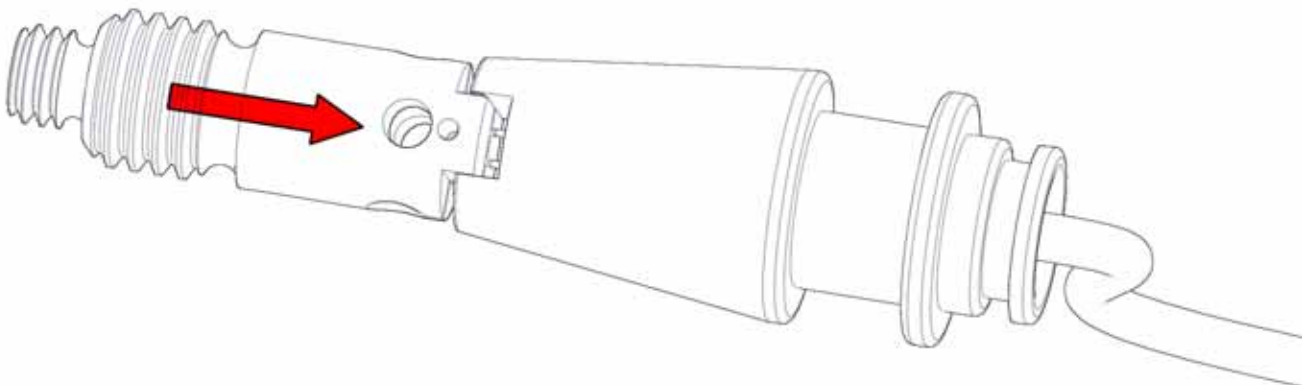

Figure 2-13 Sliding the threaded PEEK stud into the release housing.
2. Slide the threaded PEEK stud over the wire loop and into the release housing (Figure 2-13).